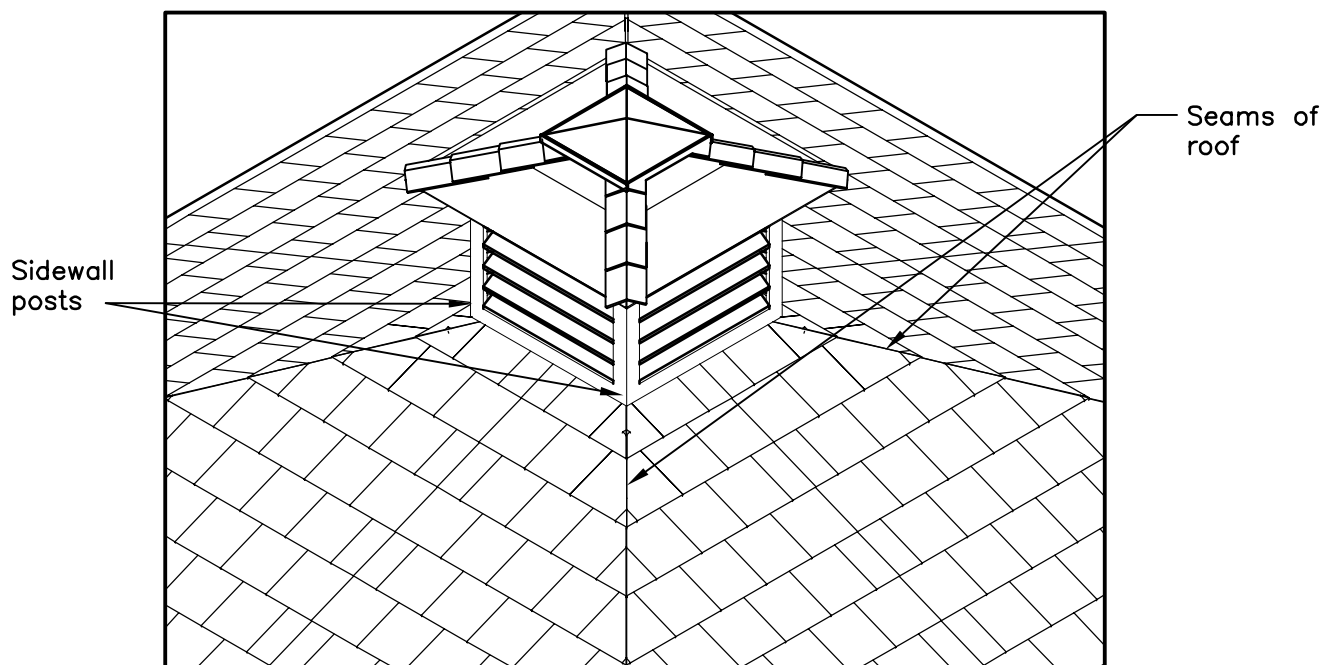

FIGURE S32
- To mount the cupola, remember that the cupola sidewall posts will line up with the seams of each triangular section of shingles. Similarly, the ridge caps will evenly match the sidewall posts. Refer to Figure S32 for proper placement. Once the cupola is properly placed it can be toe nailed to the roof with twelve 3" long nails. The bottom of cupola sidewalls have been beveled to match the slope of the roof.